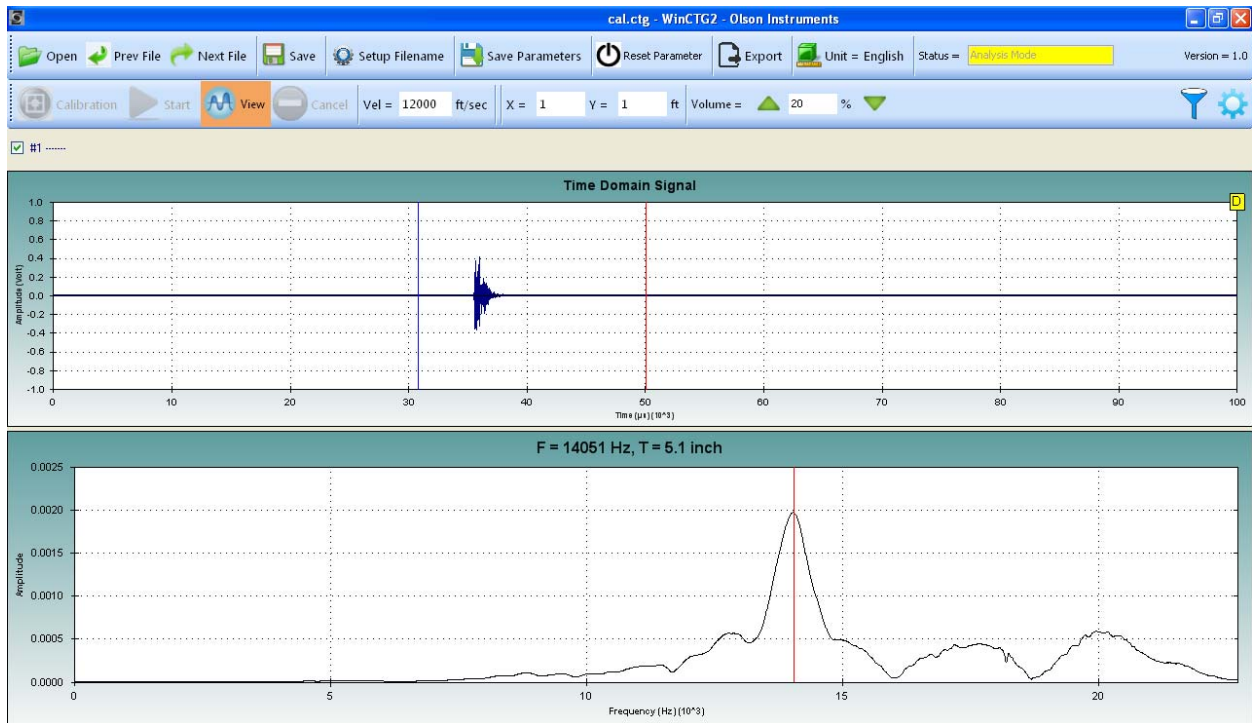

Figure 7A – Example of Good Data and a Single Prominent Peak in the Frequency Spectrum
7. Good data can be identified by a waveform signal in the Time Domain (top plot) that ranges from 0.1 volt to 0.8 volt AND the presence of a prominent peak in the Frequency Spectrum (bottom plot). (In Figure 6 above, the data was collected on a 6" x 12" cylinder so there are additional resonant peaks displayed in the data.) The following Figures 7A through 7D, demonstrate both acceptable and unacceptable data. It is recommended to verify repeatability of results by taking at least two tests at the same location.